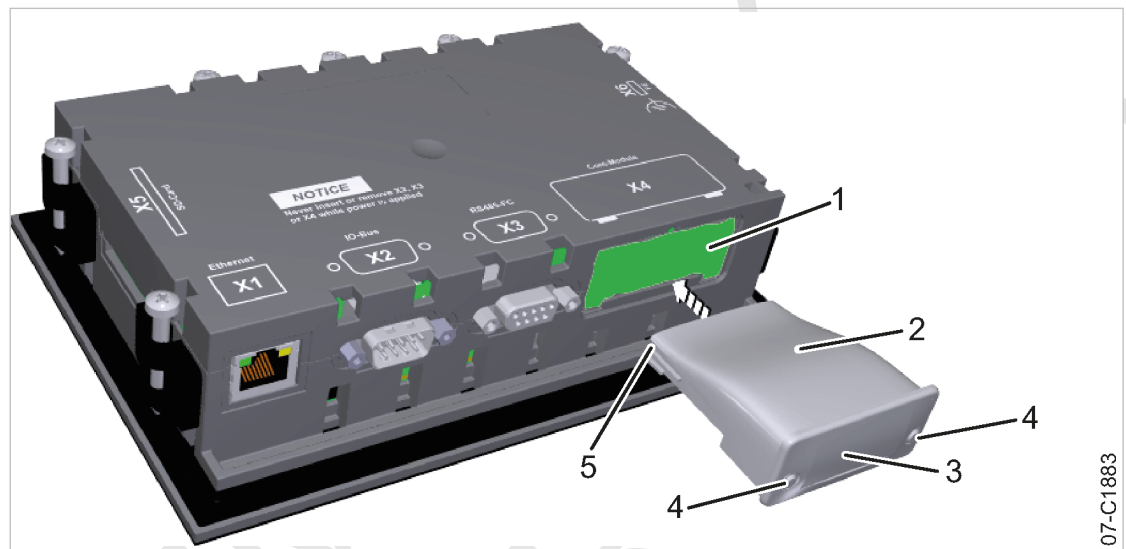

Fig. 33 Insert the communication module.
Align the communications module as shown in Figure 33.
2. Insert the communication module into the bay of interface X4 [1] until it latches (see Fig. 33). The module is correctly installed when its front plate [3] sits tightly in the recess of shaft interface X4 [1].